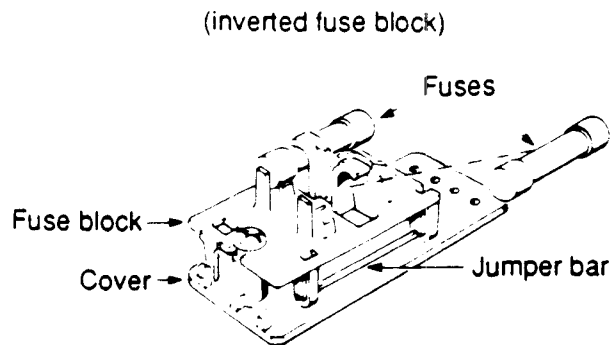

Fig. 2.3. Fuse block position and fuse insertion for 200 V and 240 V operation.
4. Invert the fuse block (see Figure 2.3 for correct orientation), and slide it back onto the Phillips screw and pedestal.
6. If they are not already installed, insert the two 1 A time-delay fuses into the block as shown in Figure 2.3. These fuses are 2 cm long.